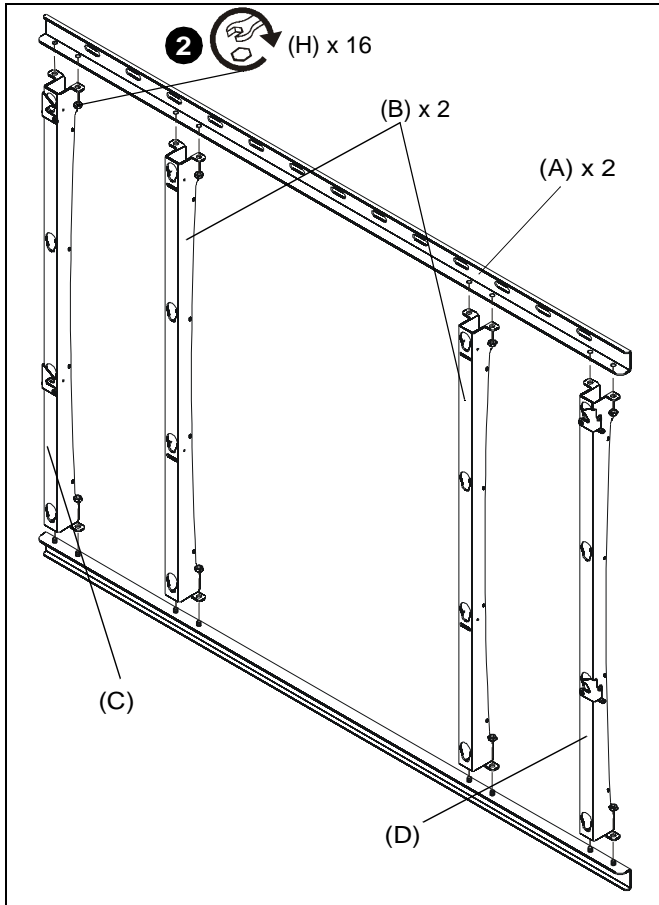

Figure 1
1. Arrange four vertical brackets (B-D) with two horizontal brackets (A) making sure the right vertical bracket (C) is on the far right and the left vertical bracket (D) is on the far left. (See Figure 1)
2. Use 16 5/16-18" lock nuts (H) to attach vertical brackets to horizontal brackets. (See Figure 1)